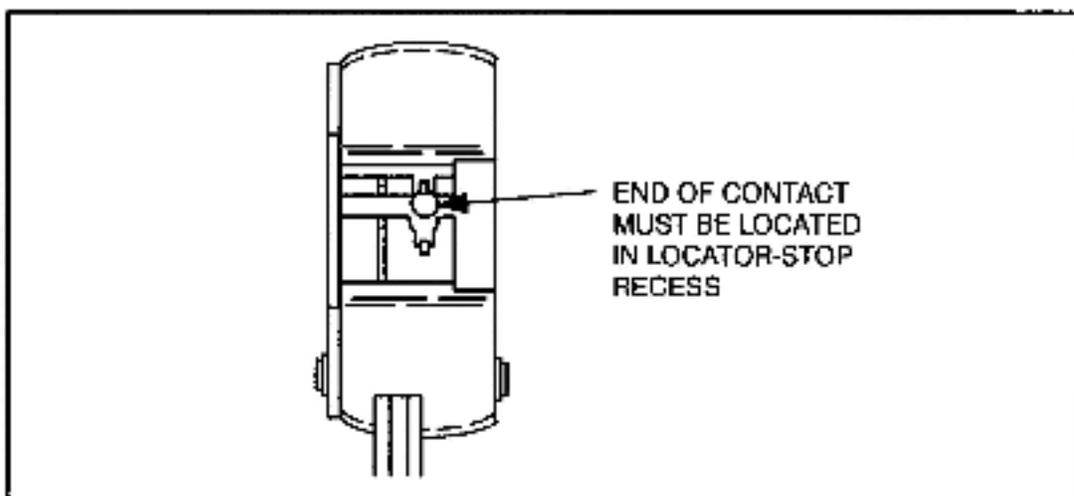

Figure 3.19 - Place Contact In Tool Head
- Step 4. Insert the conductor into the contact wire barrel until the contact bulbs against the cable dielectric, and place the contact in the tool head as shown in figure 3.19.